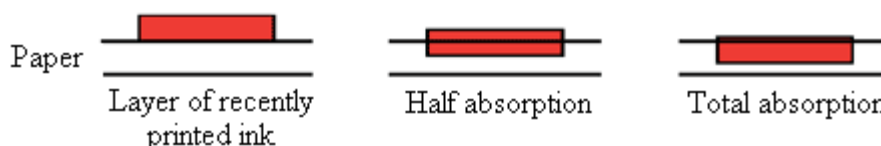

Fig. 13: Process of drying inks by absorption.
- **Absorption.** Inks that are dried using this system have a high mineral oil content. The ink is absorbed by the medium, staying moist within it (fig. 13). This is used in **newspapers, comics, forms and other very absorbent papers.**